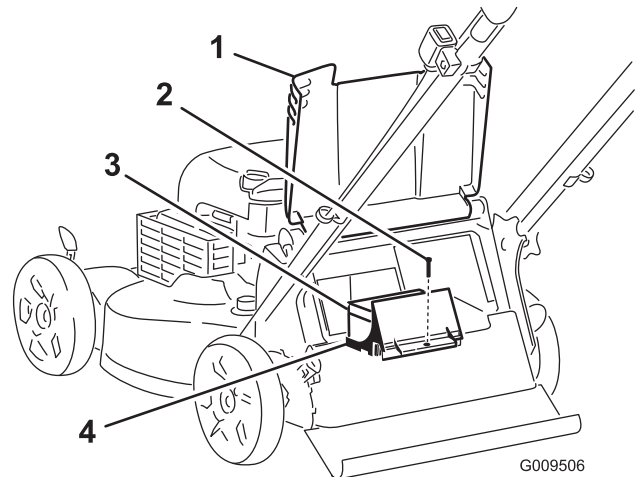
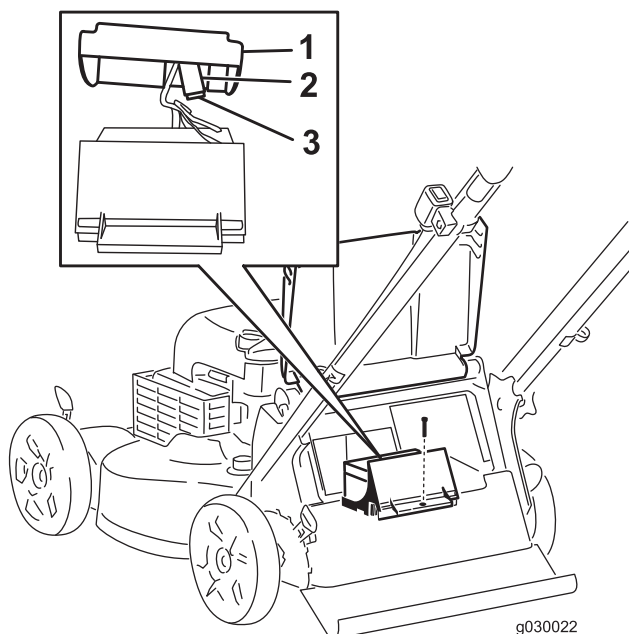

Figure 35
Figure 36
2. Raise the rear deflector and locate the battery compartment (Figure 35).
4. Remove the screw that secures the battery compartment, pull out the battery, and locate the fuse (Figure 35 and Figure 36).
5. Replace the fuse in the fuse holder (Figure 36).